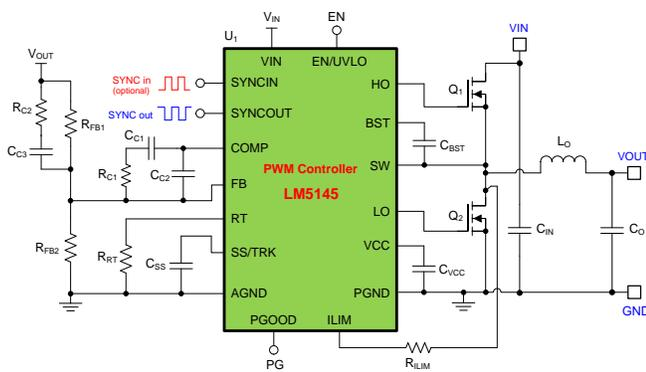

Figure 2. Synchronous buck DC/DC regulator with wide input voltage range
A small form-factor power solution balancing efficiency and size is vital. Figure 2 shows a DC/DC buck regulator solution with PWM controller U₁ driving discrete power MOSFETs Q₁ and Q₂. The choice of controller hinges initially on input voltage and switching frequency specifications. Choosing a controller with a wide V_{IN} range and high line transient immunity offers an outsized voltage rating and operating margin to accommodate peak voltage transients.
Typically, an MCU or FPGA provides the APT voltage setpoint command for the PA in digital format, which the power supply should readily interpret. For example, a variable duty cycle PWM output from an MCU could be RC filtered and resistor-coupled to the feedback (FB) pin of the DC/DC regulator. Another option is to apply a DC control voltage at the tracking input of the controller (SS/TRK in Figure 2) for output voltage adjustment.